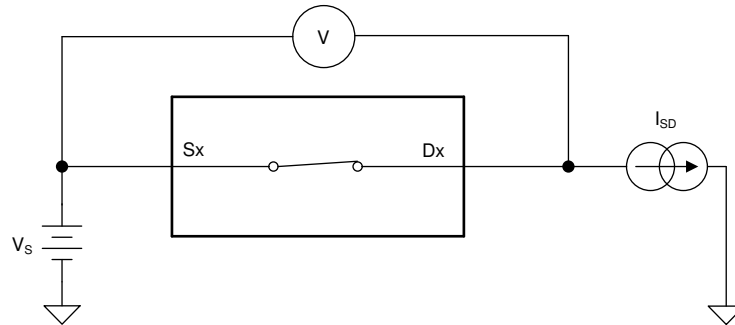

Figure 6-1. On-Resistance Measurement Setup
The on-resistance of a device is the ohmic resistance between the source (Sx) and drain (Dx) pins of the device. The on-resistance varies with input voltage and supply voltage. The symbol R_{ON} is used to denote on-resistance. The measurement setup used to measure R_{ON} is shown in Figure 6-1. Voltage (V) and current (I_{DS}) are measured using this setup, and R_{ON} is computed as shown below with $R_{ON} = V / I_{SD}$: